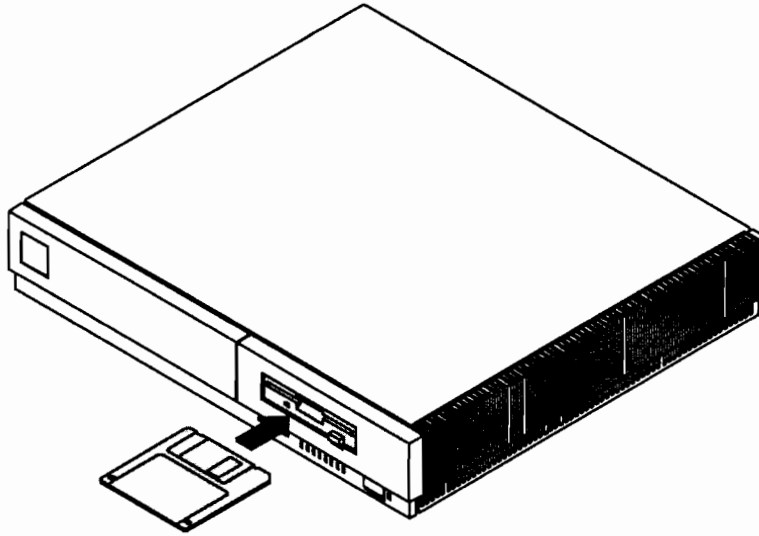

Figure 4-2. Inserting the Floppy Disk into the Disk Drive
3. Insert the diskette into the drive as shown in Figure 4-2.